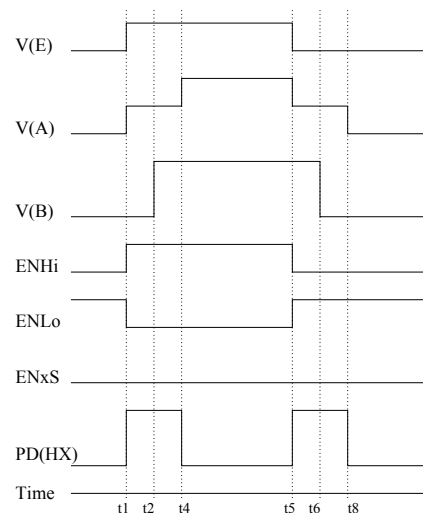

Figure 6: Power dissipation $P_D(HX)$ without iC-xSwitch
Figures 6 and 7 show the input signal V(E), the switch trigger signals derived from this and the voltage curve at the beginning (A) and end (B) of the line at intervals t1 to t8. Figure 6 shows operation without iC-xSwitch. Power